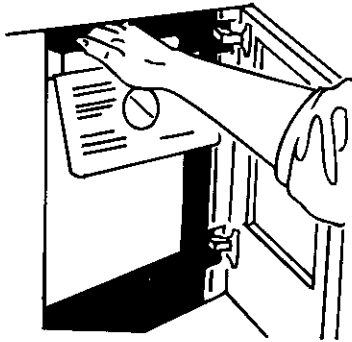

Figure 3.14 Changing the cassette collection box.
2. Unlock and open the access door on the right hand side of the sterilizer (Fig. 3.14).